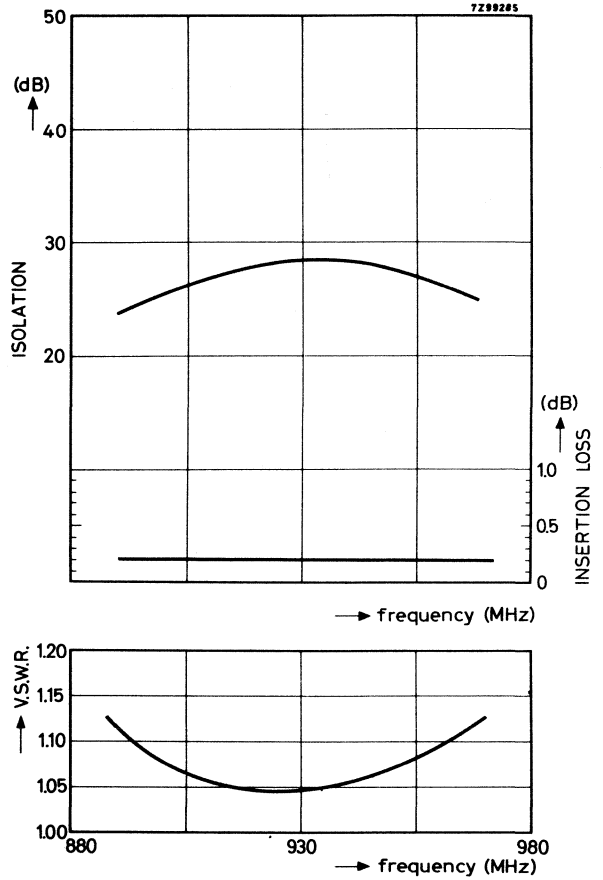

Fig. 2
**ELECTRICAL DATA** (see also Fig.2)